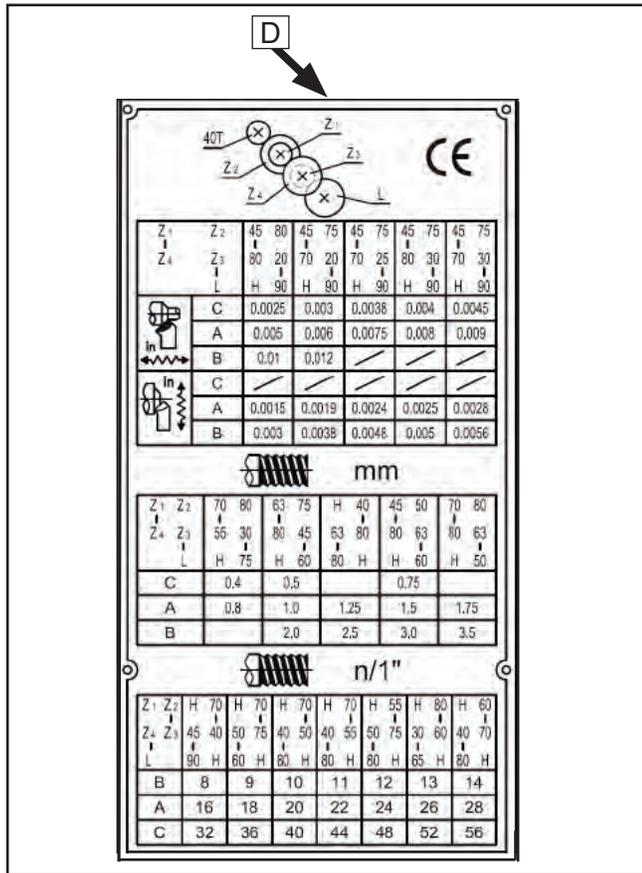

Figure 63. Feed rate chart.
D. Feed Rate Chart: Used to determine combination of selector settings and end gear combinations to achieve desired result (see **Figure 63**).